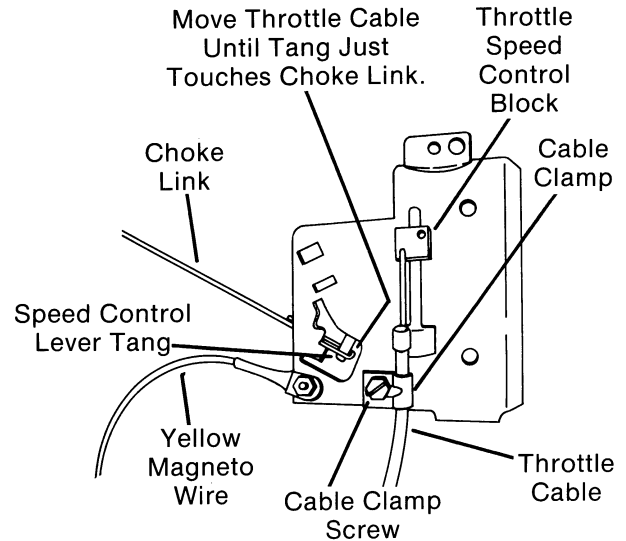
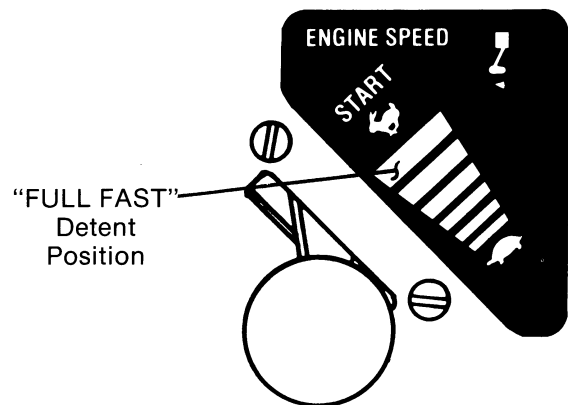

FIG. 29
FIG. 30
1. Disconnect throttle cable at engine, by loosening throttle cable clamp screw enough so that cable can be removed. Disconnect cable end from throttle speed control block. (Fig. 29)
6. Move throttle control lever to the "FULL FAST" position (which is the detent before "START" position is reached). (Fig. 30) Attach end of throttle control cable to throttle speed control block and slip cable under cable clamp. Push throttle cable up until tang on speed control lever just touches choke link as shown in (Fig. 29). Tighten cable clamp screw.